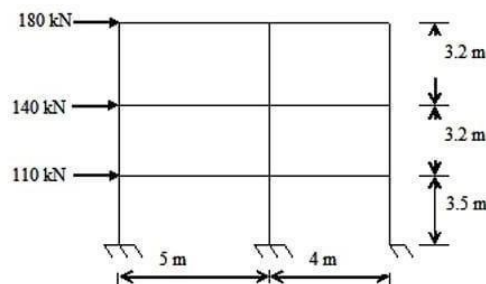

Figure 4
7. Analyse the frame shown in figure 4, using Portal method. Draw the bending moment diagram and sketch elastic curve. Cross-sectional area of all columns is equal. [10]